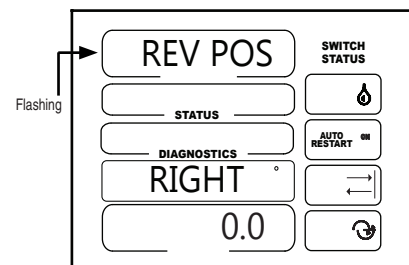

Figure 10-4
1. REV POS should be flashing. See figure 10-4